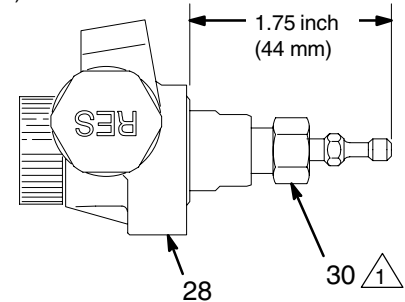

Fig. 8
7. Adjust the needle so it protrudes 1–3/4 in. (44 mm) from the rear of the housing. See Fig. 8.
8. Screw the nozzle retainer (30) snugly into the back of the housing (28). Torque to 25–35 in-lb (2.8–3.9 N•m) using the 1/2" end of wrench (35). See Fig. 8.